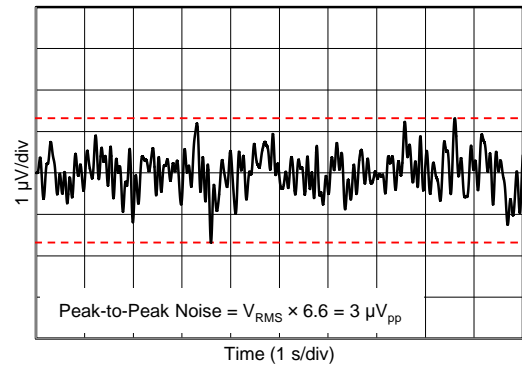

Figure 16. 0.1-Hz to 10-Hz Input Voltage Noise
0.1-Hz to 10-Hz Input Voltage Noise	<a href="#">Figure 16</a>